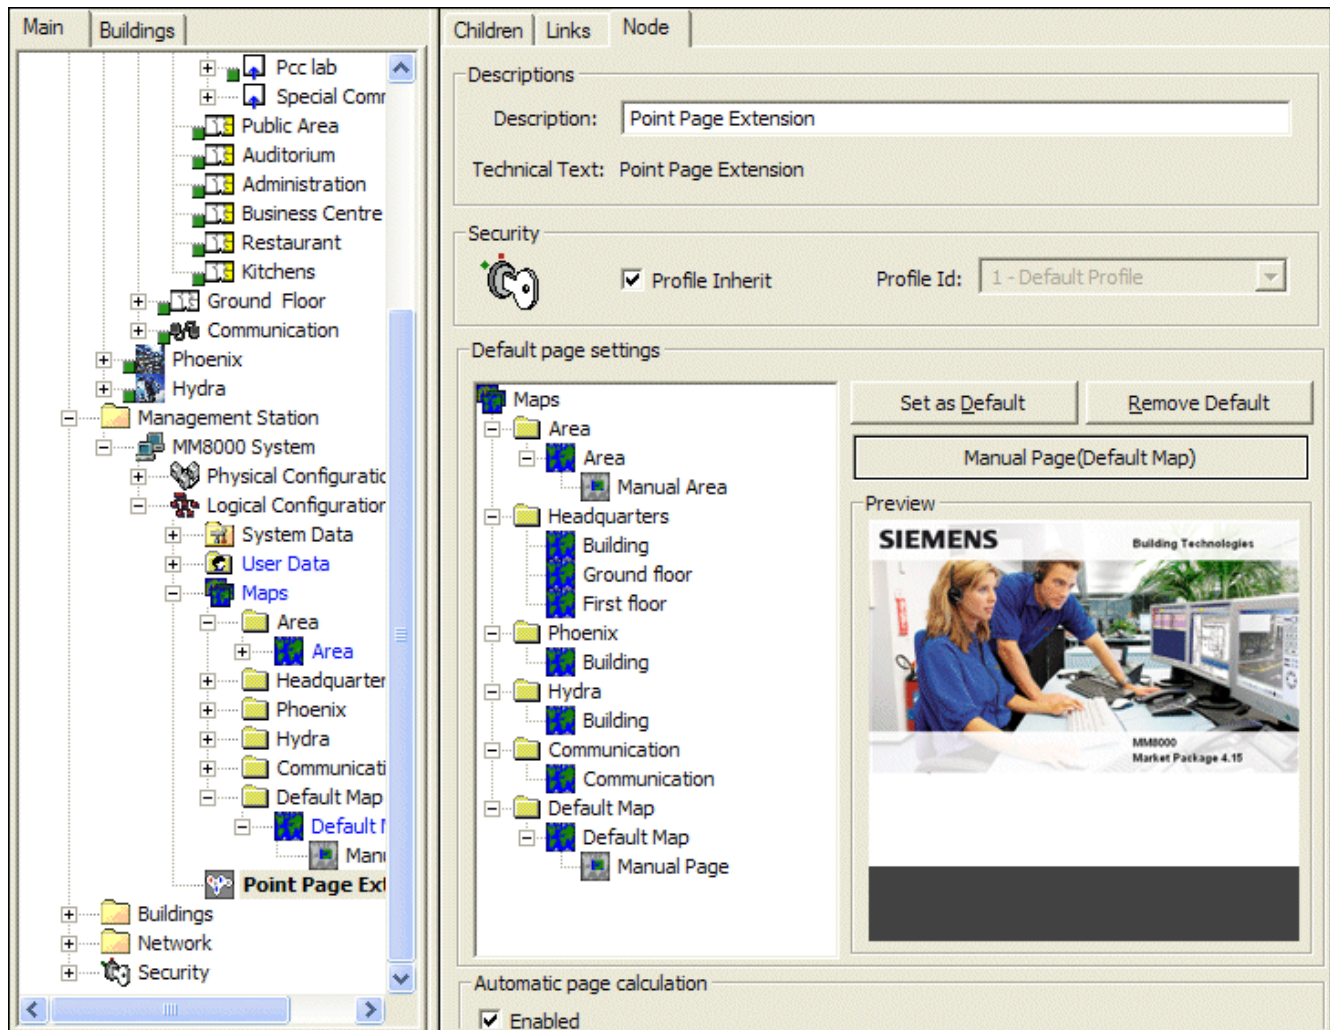

Fig. 28 Setting the default page
4. Select **Set as Default** (see Fig. 28).